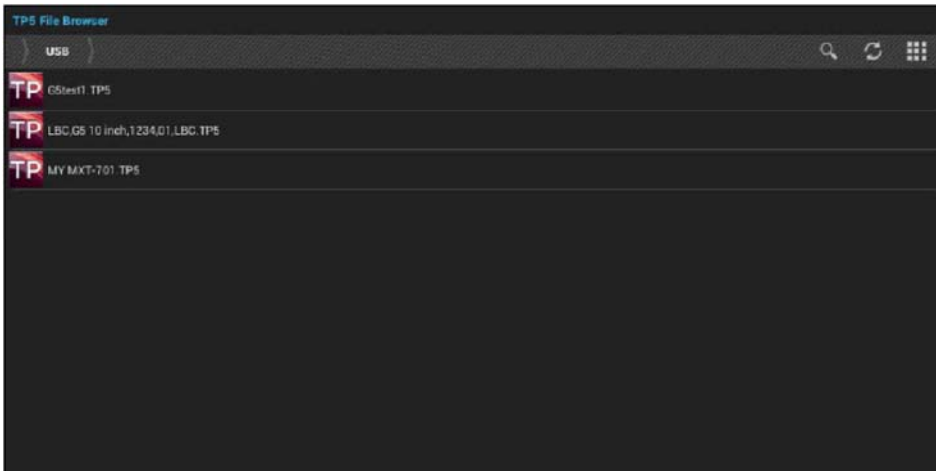

FIG. 138 TPDesign5 File Browser window
3. In the Reset & Update window, press **Install Pages from External Disk** (under PANEL PAGES) to open the TP5 File Browser window. All TP5 files found on the USB drive are listed (FIG. 138):